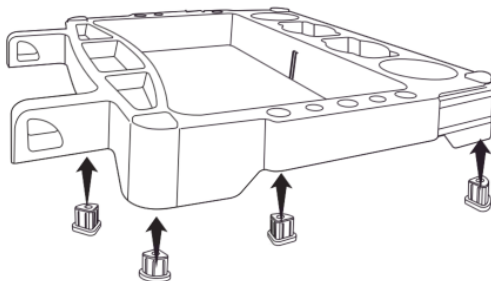

Fig. 1
1. Take out the four bushes (2) and install them into the bottom tray (1) (Fig. 1).